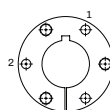

Figure 1: QD-SF thru J
- Tighten bolts in a star pattern alternately and evenly as illustrated in Figures 1 - 6 in one bushing only until all bolts are pulled up to the proper wrench torque listed in Table 1. Do NOT over torque. If a key seated bushing is used without a key, a fluid resistant material to prevent moisture can be filled in the key seat.